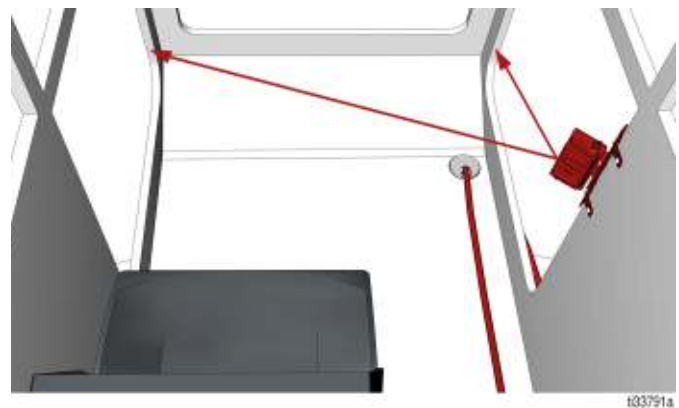

FIG. 19
3. Install the bracket inside the cab using existing holes in the cab, and the hardware provided in the kit (FIG. 19).